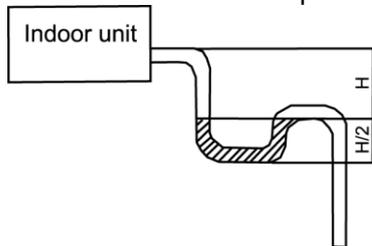

Figure 3-1-52
- (4) When the drain hose cannot keep a sufficient gradient, it is necessary to fit a riser pipe (field supplied) to it.
- (5) If the air flow of indoor unit is high, this might cause negative pressure and result in return suction of outdoor air. Therefore, U-type water trap shall be designed on the drainage side of each indoor unit.(Figure 3-1-52)
- (6) Install one water trap for each unit.
- (7) Installation of water trap shall consider easy cleaning in the future.